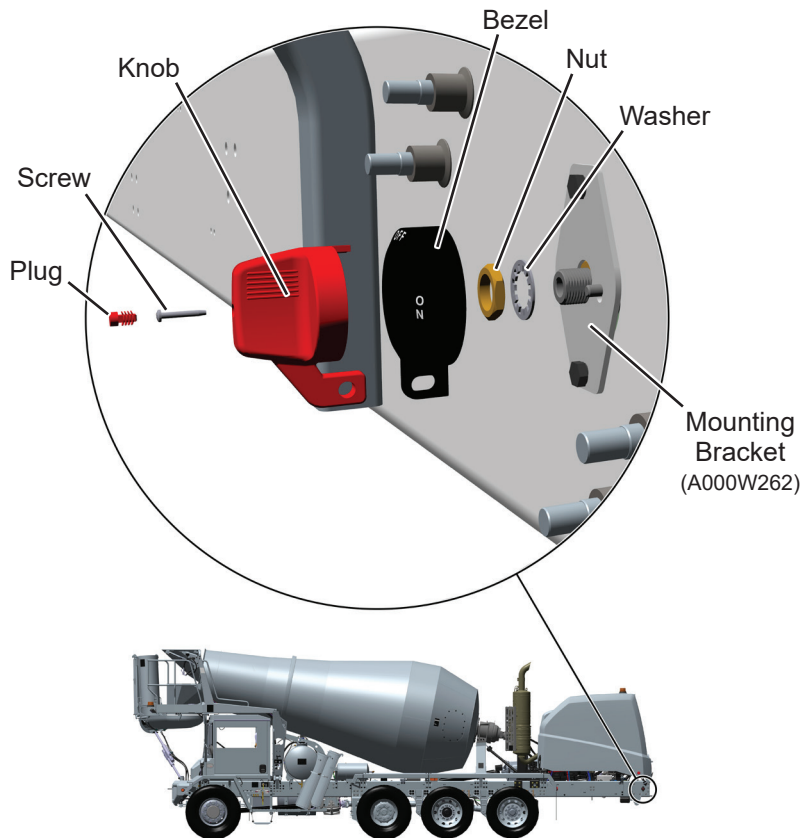

Figure 6. Battery Disconnect Switch Installation
18. Secure mounting bracket (A000W262) to outside of frame rail with mounting hardware removed in Step 14. See Figure 6. Final tighten mounting hardware to 18 ft. lbs.
19. Install switch body from inside battery box and into mounting bracket. Make sure to align the anti-rotation stud on switch body with hole in mounting bracket. See Figure 6.
20. Install washer and nut on switch body. See Figure 6. Final tighten nut to 18 ft. lbs.
21. Install bezel and knob on switch body. See Figure 6.
22. Install screw in end of knob. See Figure 6. Final tighten screw to 5-9 in. lbs.
23. Install plug in end of knob. See Figure 6.